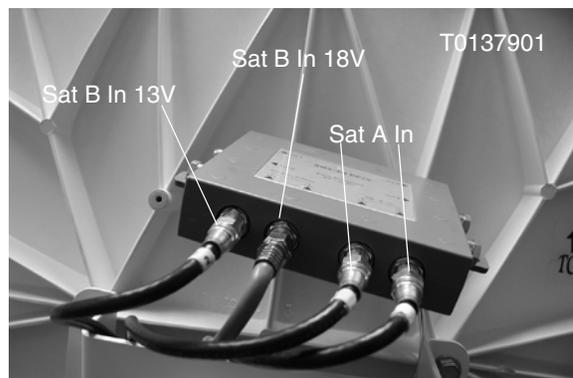

Figure 16: Multiswitch ports
If you did not install the combiner, simply connect a length of cable between each LNB port and multiswitch Sat In port, as shown in Figure 16. Also follow the grounding instructions.
1. Connect the cable attached to the combiner Out to Multisatellite port to the multiswitch Sat B In 18v port. See Figure 16.
2. If the satellite at 99° provides DIRECWAY, connect the remaining cable from the remaining LNB on the rail to the multiswitch Sat B In 13v port. See Figure 16.
3. If the satellite at 99° provides DIRECWAY, connect the 2° feed cables to the multiswitch “Sat A In” ports. It does not matter which cable you connect to the ports. See Figure 16.